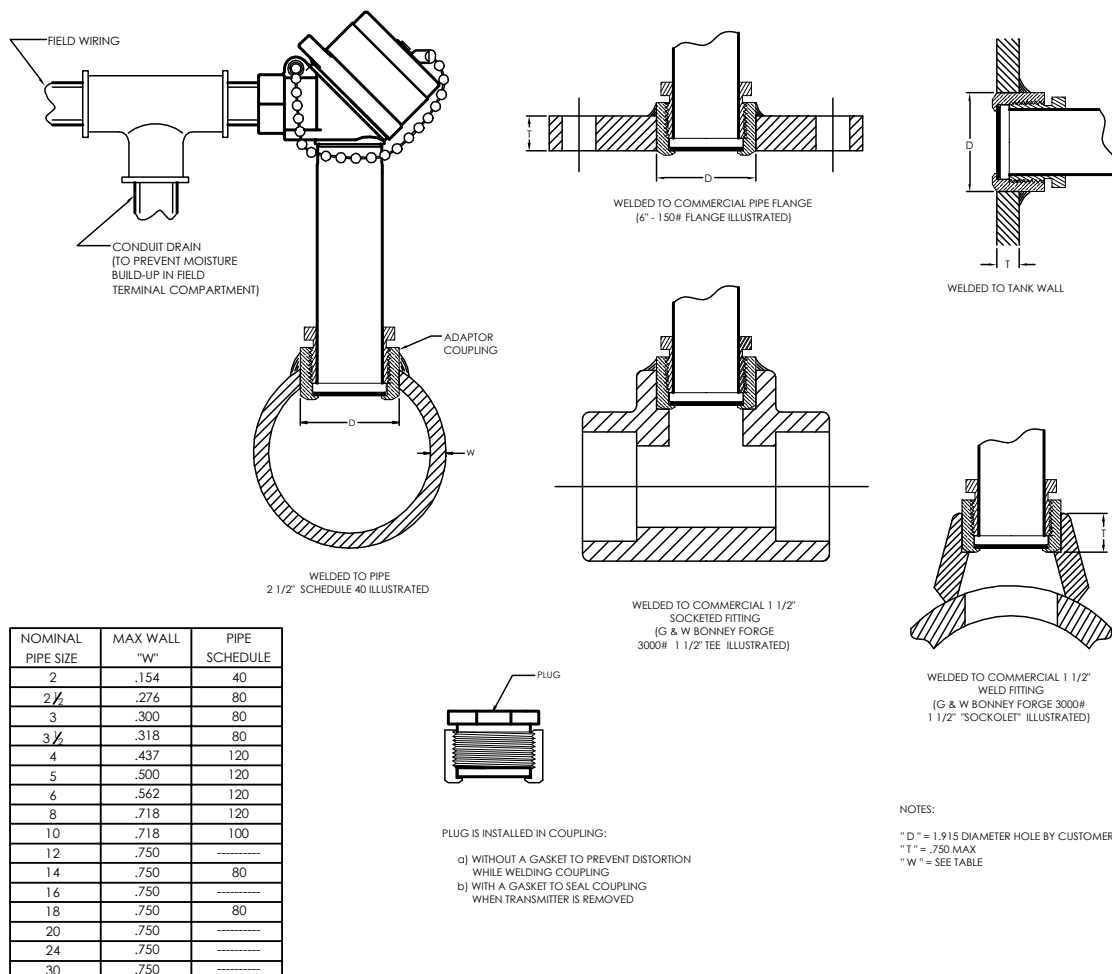

FIGURE 2-2
To install the Model 88F, the adapter coupling must be welded to the customer's pipe, tank, pipe flange, or other fitting. Figure 2-2 shows some suggested installations and lists suggested pipe sizes. The installation procedure is as follows:
2. Thread plug into the coupling (Figure 2-2) until it bottoms. Do not use the gasket. (Use of a high temperature anti-seize material is recommended on the plug during welding.)
6. Install the gasket into the coupling (Figure 2-2). Insert the Model 88F into the coupling by screwing the threaded retainer (part of the Model 88F) into the coupling until the gasket just starts to compress. Tighten the retainer another 1/6 revolution (one hex flat).